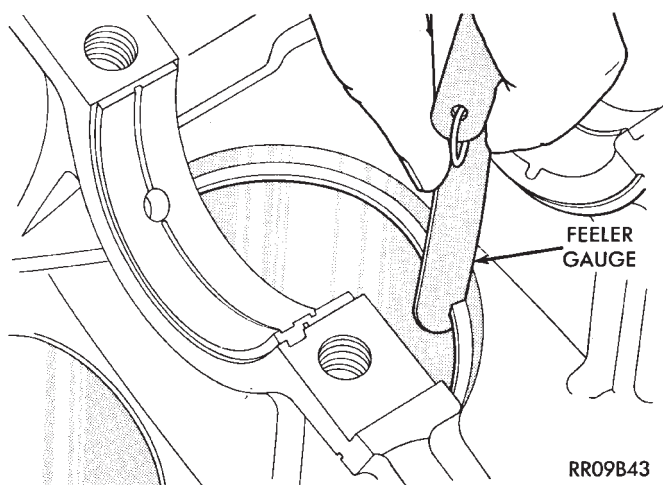

Fig. 14 Piston Ring Gap
(1) Wipe cylinder bore clean. Insert ring and push down with piston to ensure it is square in bore. The ring gap measurement must be made with the ring positioning at least 12mm (.50 inch) from bottom of cylinder bore. Check gap with feeler gauge (Fig. 14). Refer to specifications (Fig. 16 and 17).